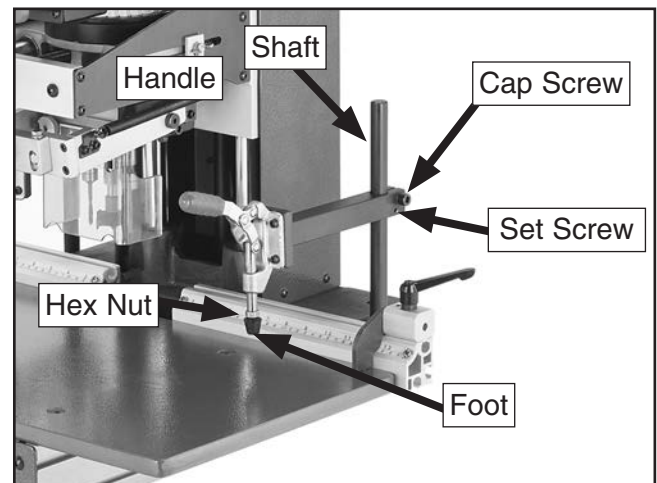

Figure 27. Hold-down assembly.
2. Loosen the cap screw and set screw (see **Figure 27**) and adjust the hold-down so the foot just touches the cabinet door and the handle is parallel to the table, then push the handle down to check clamping pressure. Adjust as necessary until correct.